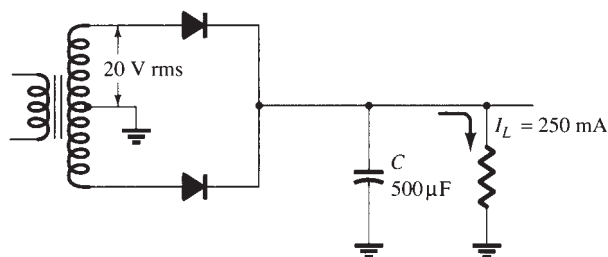

FIG. 15.46
- *24. Calculate the minimum input voltage of the full-wave rectifier and filter capacitor network in Fig. 15.46 when connected to a load drawing 250 mA.